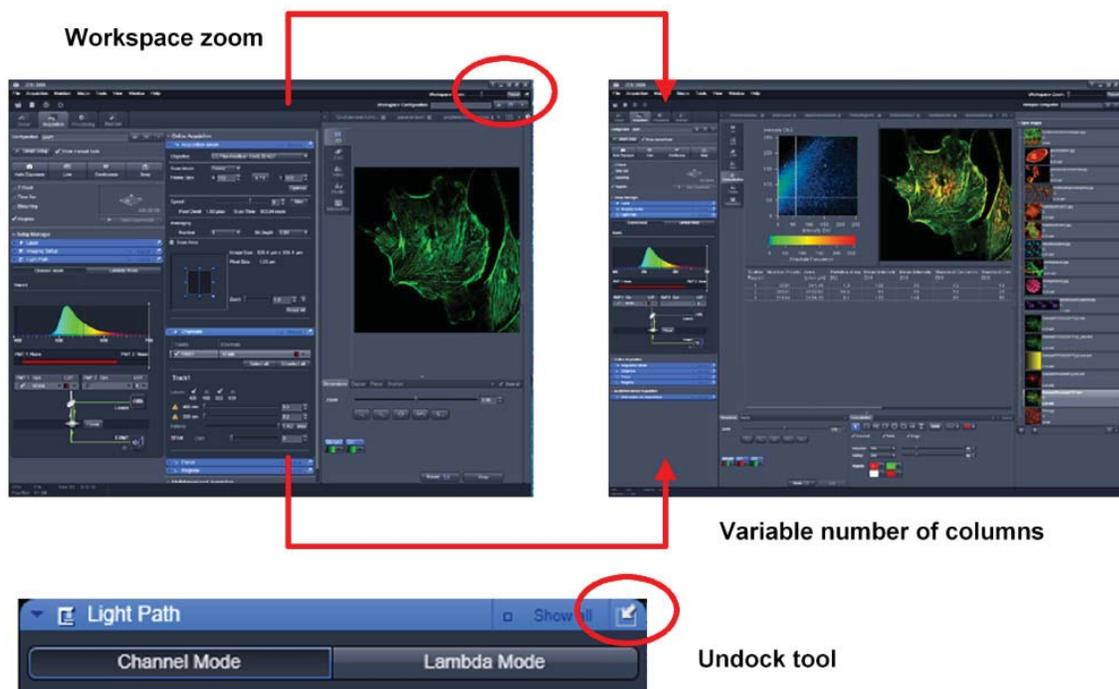

Fig. 7 ZEN Window Layout configuration
- The user can add more columns for tools to the **Left Tool Area** or detach individual tools to position them anywhere on the monitor. To add a column, drag a tool group by the title bar (e.g., "Online Acquisition") to the right and a new tool column automatically opens. Alternatively use the context menu "move toolgroup to next column". To detach a tool, click on the little icon on the very right end of the blue tool header bar (Fig. 7).
- Another unique feature in Imaging Software is the scalable ZEN interface. This **Workspace Zoom** allows adjustment of the **ZEN 2009** window size and fonts to the situational needs or your personal preferences (Fig. 7).